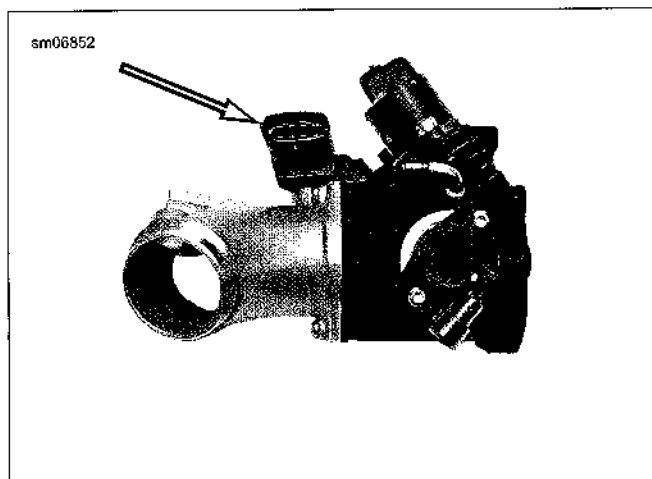

Figure 4-31. TMAP Location
See Figure 4-31. The Temperature Manifold Absolute Pressure (TMAP) sensor performs the dual functions of monitoring air temperature and air pressure in the intake manifold. See the electrical diagnostic manual for troubleshooting.
5. See Figure 4-31. Remove two screws (2) and separate induction module from intake manifold. See 4.7 INDUCTION MODULE.